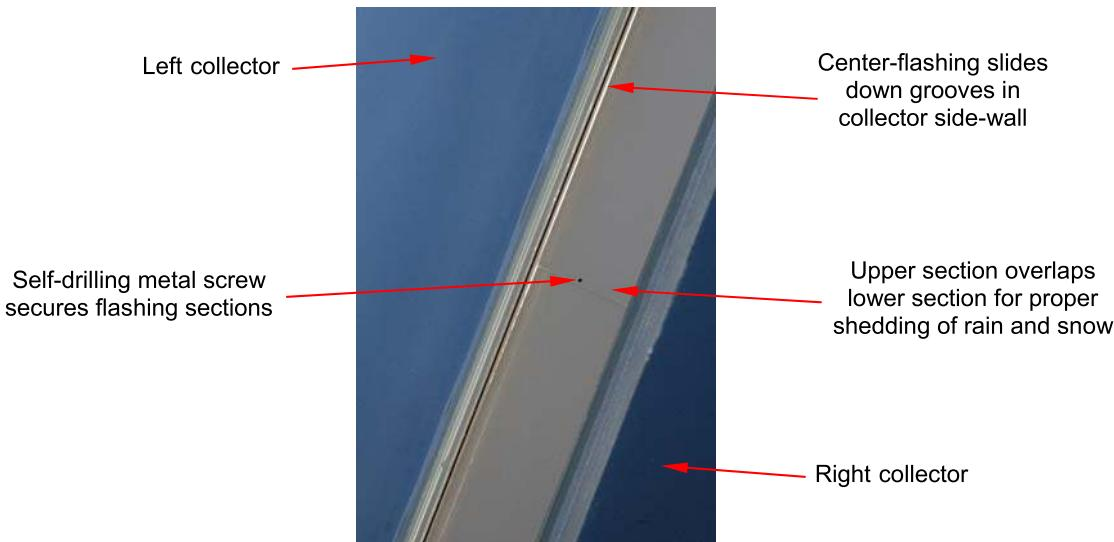

Fig. 7.2.1 – Center-flashing slides between collectors (2-, 3- and 4-collector Appliances).
1. Slide center-flashing between collectors in collector side-wall grooves. Upper length should overlap lower length to ensure proper rain and snow shedding (Fig. 7.2.1).
3. Secure upper center-flashing section to lower section with a self-drilling screw (Fig. 7.2.1).